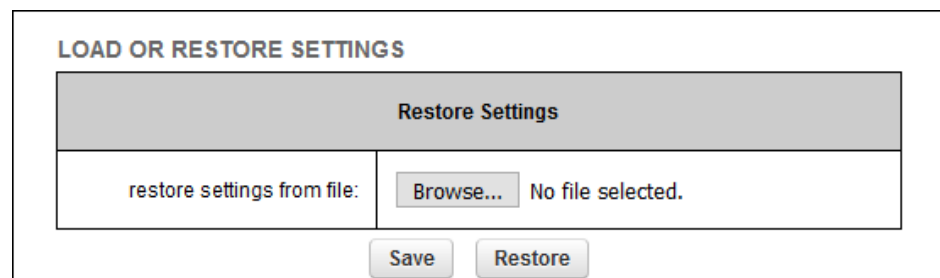

Figure 63. Configurator GUI (LOAD OR RESTORE SETTINGS dialog)
- The **LOAD OR RESTORE SETTINGS** dialog will be shown (Figure 63 \(page 155\)).